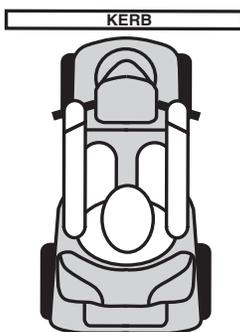

FIGURE 3. CORRECT KERB APPROACH
Always approach a kerb straight on whether ascending or descending it. See figures 3 and 3A.
**WARNING! Be sure your scooter is traveling perpendicular to any kerb you may be required to ascend or descend. See figures 3 and 3A.**